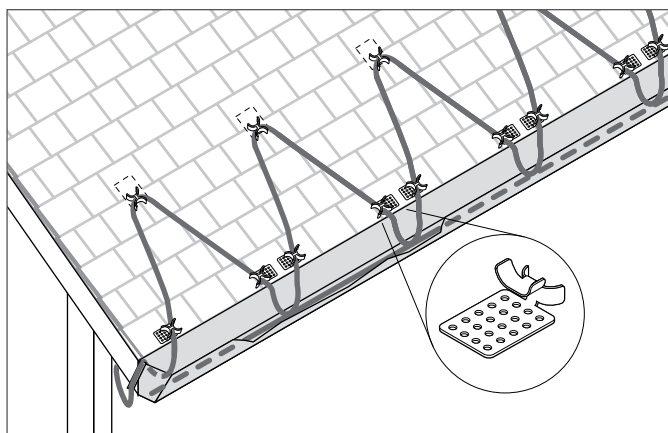
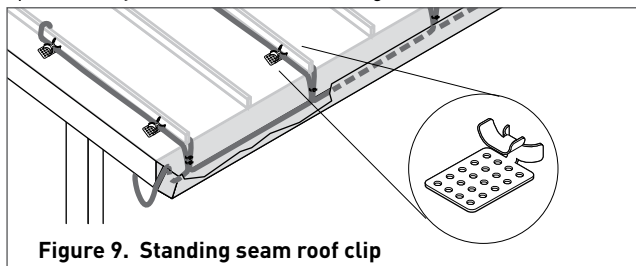

Figure 7. Standard roof clip attachment
Figure 9. Standing seam roof clip
- Roof clips may be attached to a shake or shingle roof with nails or screws as shown in Figure 7. Roof clips may be attached to a metal roof using screw, nail or adhesive as shown in Figure 9. (See H56723 installation instruction for more details.) Reseal the nail or screw holes if necessary before installing heating cable in the clips.